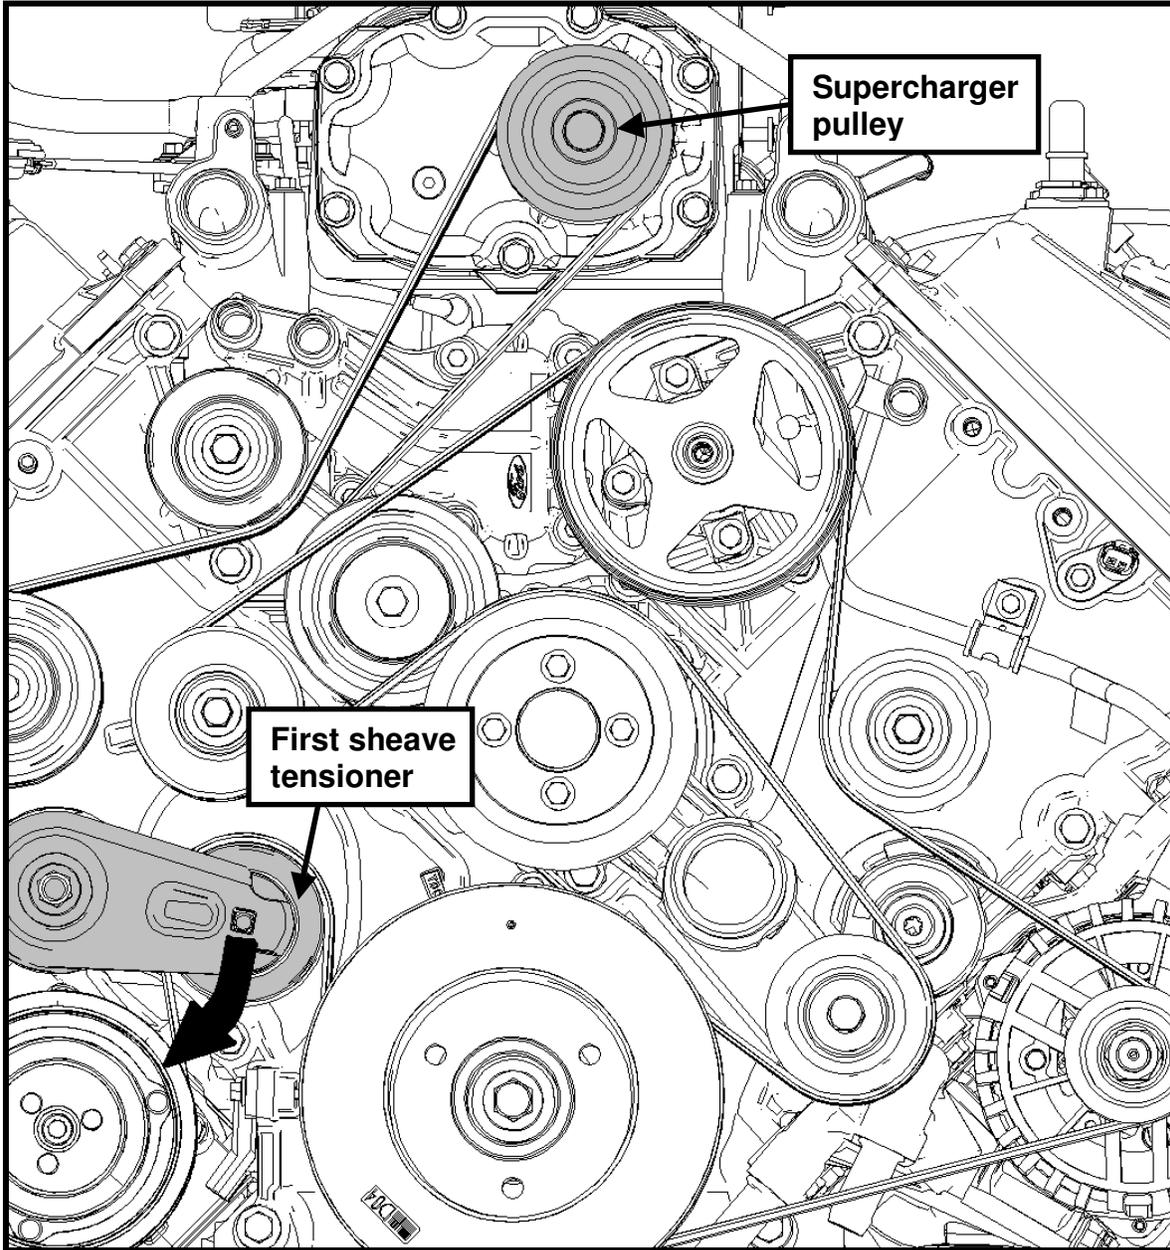

Fig. 19
**STEP 4:** Re-install the FEAD belt over the supercharger pulley by using a breaker bar to release the tensioner (See Fig. 19).